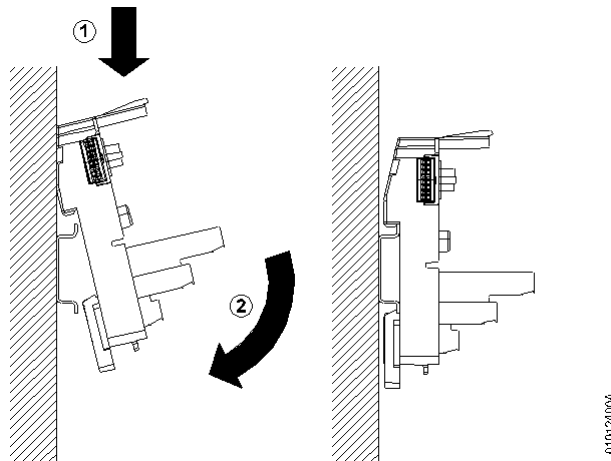

Figure 24: Mounting the base on the rail
1. Put the base in contact with the assembly panel superficies as shown on Figure 24;
3. Rotate the base towards the rail until the lock plugs in (see Figure 24);